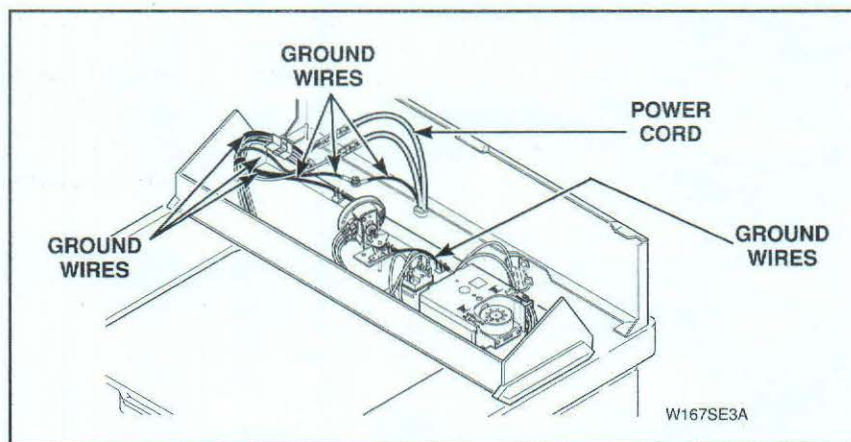

Figure 2
2. POWER CORD TO CABINET TOP, CABINET TOP TO CONTROL HOOD MOUNTING BRACKET, PRESSURE SWITCH MOUNTING BRACKET AND GROUND TAB ON GRAPHICS PANEL, *Figure 2.*